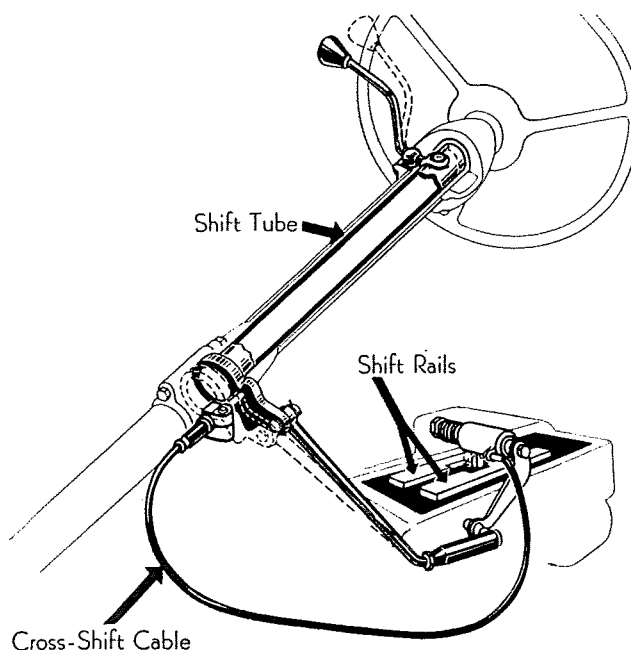

Fig. 21—Chrysler, De Soto, Dodge and Plymouth 1939
1939: (See Fig. 21.) (1)—Disconnect the control rod from the shift lever at the transmission. (2)—Set the hand control lever and the transmission gears in neutral. (3)—Adjust the length of the rod by turning its threaded end up or down into the adjustable joint
1939: (See Fig. 21.) (1)—Loosen the clamp screw at the steering column end of the cable. (2)—Set the hand control lever in neutral and loosen the ferrule screw—which is just below the clamp screw—until end play develops between the plunger end of the cable and the clover-leaf plate. (3)—Then tighten the screw just enough to eliminate end play. NOTE—Do not tighten too much, otherwise excessive wear will develop at the end of the cable and the plate. (4)—When adjusted properly, tighten the clamp screw.
1939: (See Fig. 21.) (1)—Disconnect the control rod from the shift lever at the transmission. (2)—Set the hand control lever and the transmission gears in neutral. (3)—Adjust the length of the rod by turn-
1939: (See Fig. 21.) (1)—Loosen the clamp screw at the transmission end of the cable. (2)—Set the hand control lever in neutral and loosen the ferrule screw—which is just below the clamp screw—until end play develops between the plunger end of the cable and the clover-leaf plate. (3)—Then tighten the screw just enough to eliminate end play. NOTE—Do not tighten too much, otherwise excessive wear will develop at the
1939: (See Fig. 21.) (1)—Disconnect the control rod from the shift lever at the transmission. (2)—Set the hand control lever and the transmission gears in neutral. (3)—Adjust the length of the rod by turning its threaded end up or down into the adjustable joint until the rod slips freely into the lever, when the lever is held toward the rear of the transmission. (4)—Tighten the lock nut.
1939: (See Fig. 21.) (1)—Loosen the clamp screw at the transmission end of the cable. (2)—Set the hand control lever in neutral and loosen the ferrule screw—which is just below the clamp screw—until end play develops between the plunger end of the cable and the clover-leaf plate. (3)—Then tighten the screw just enough to eliminate end play. NOTE—Do not tighten too much, otherwise excessive wear will develop at the end of the cable and the plate. (4)—When adjusted properly, tighten the clamp screw.